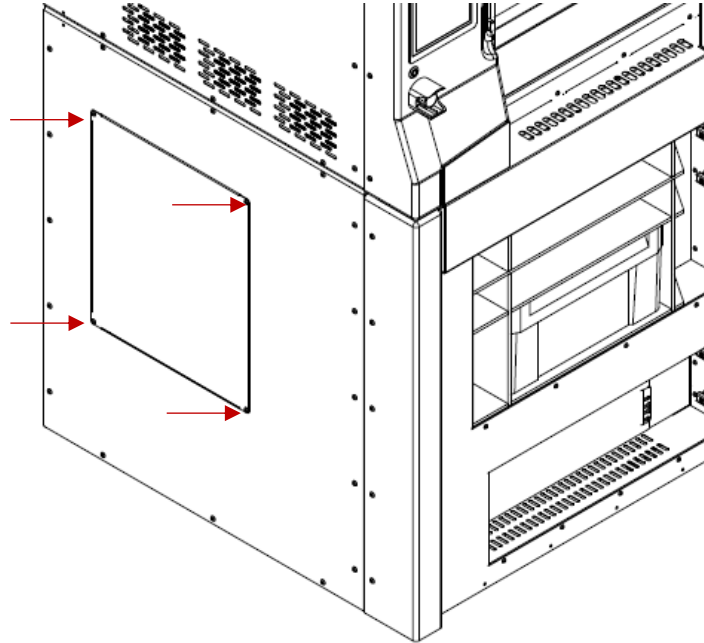

Fig. 128a Lower left printer cover (INDUSTRY F421)
2. For INDUSTRY F421: Remove the revision on the left side of the printer by unscrewing the screws holding it in place (Fig. 128a)